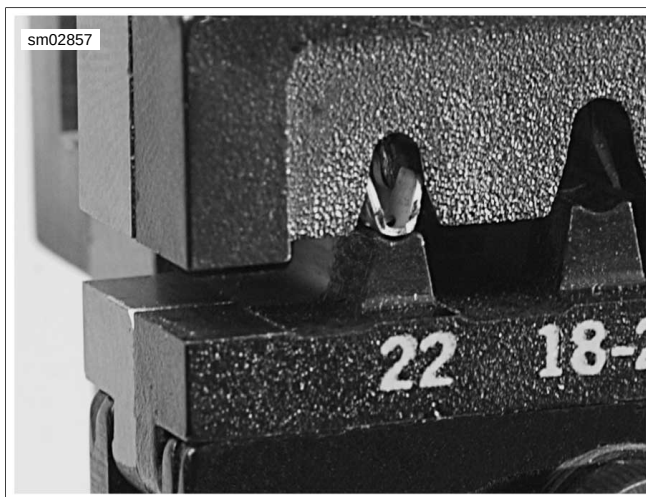

Figure A-34. Crimp Tails in Vertical Alignment between Punch and Die
- See Figure A-34. Ratchet the handles together until the crimp tails are held in vertical alignment between the punch and the die.